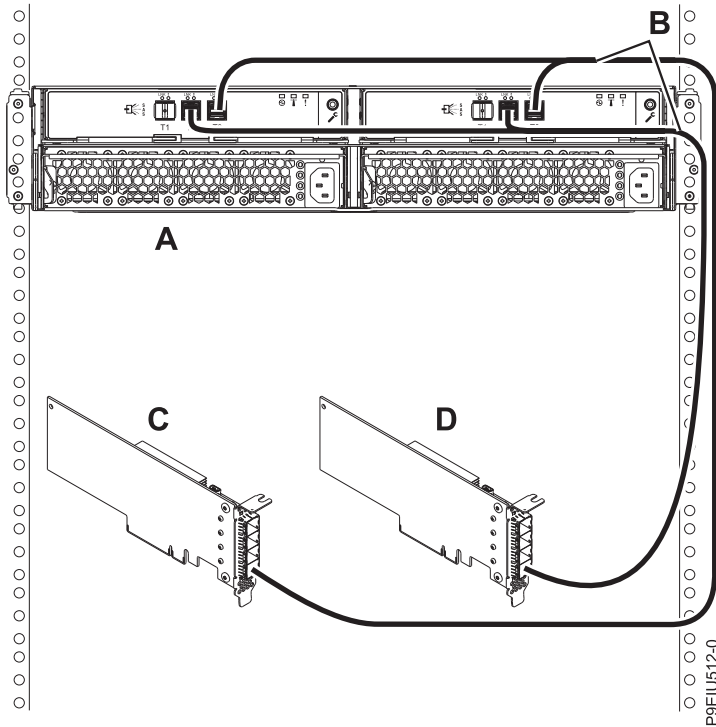

Figure 17. Mode 2 connection of one ESLL or ESLS storage enclosure by using YO12 cables to two independent FC EJ0J or FC EJ0M SAS adapters
17. Complete a mode 2 connection of one enclosure (A) by using YO12 cables (B) to two independent FC EJ0J or FC EJ0M SAS adapters (C and D), as shown in Figure 17 on page 17. Then, continue with “Connecting cables, power cords, and installing covers” on page 20.